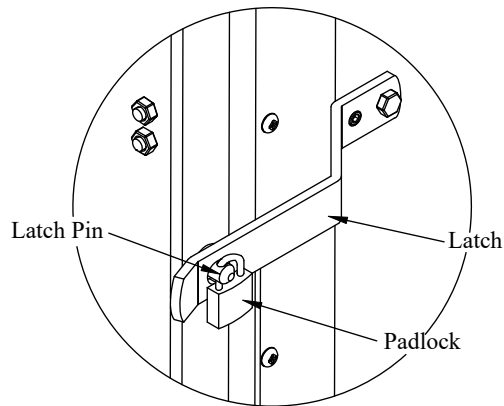

Figure 19: Padlock location.
9. **Lock** the padlock through the hole in the latch pin (Figure 19).